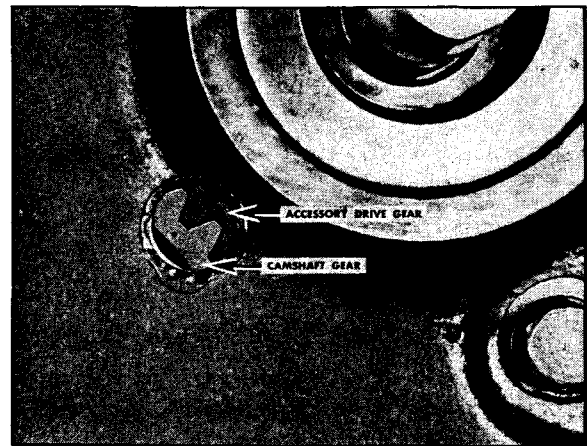

Fig. 12-37. Timing accessory drive gear to camshaft gear
1. Remove the plug from the timing view hole in the gear case cover and with the aid of a pen light, assemble the accessory drive assembly in place with the center punch mark on the gear matched with the center punch mark on the camshaft gear. Fig. 12-37.